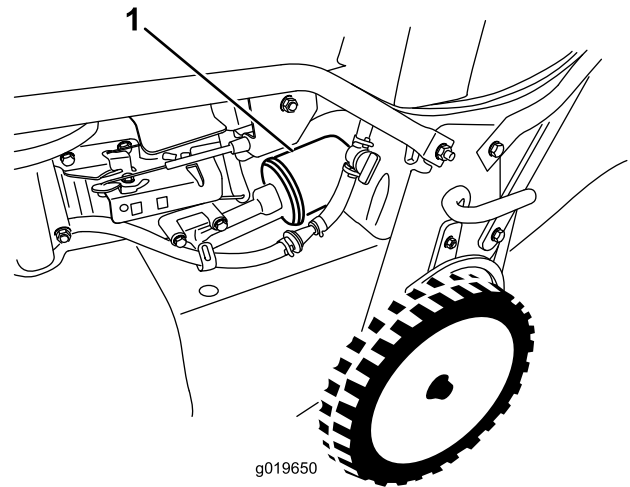

Figure 24
6. Remove the oil filter (Figure 24).